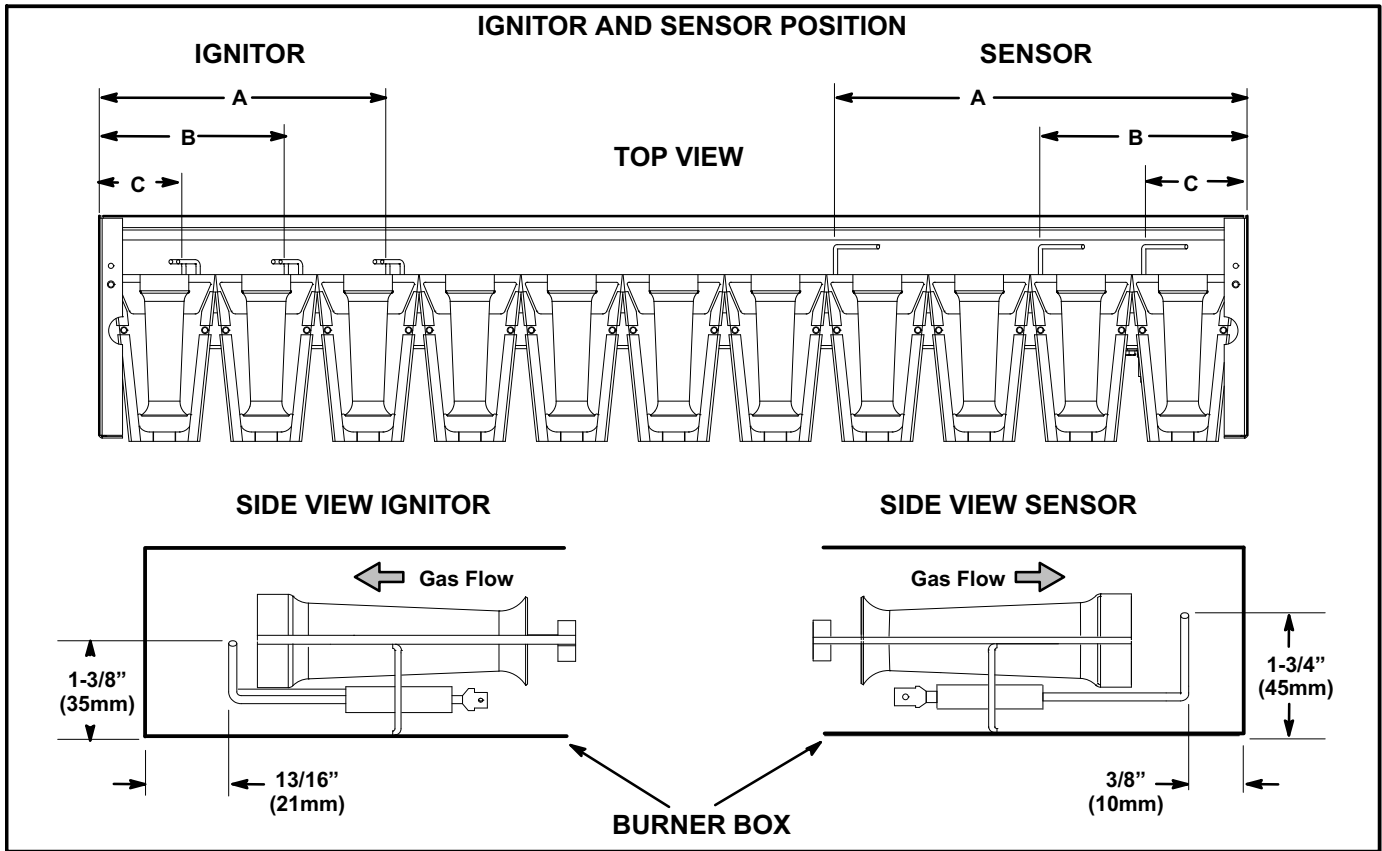

FIGURE 23
- 5- Check the alignment of the ignitor and the sensor as shown in figure 23 and table 11.